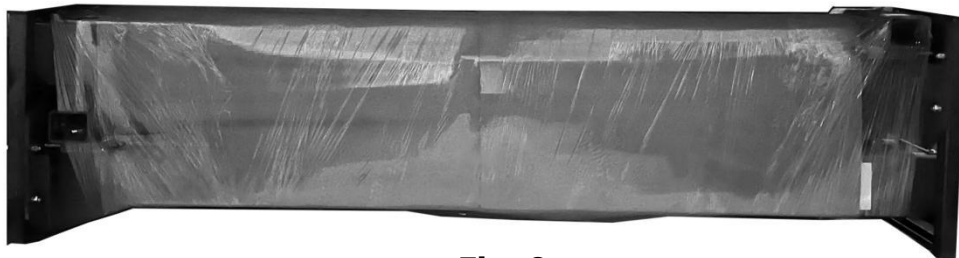

Fig. 9
1. Packaged lift and hydraulic power unit (See Fig. 9).